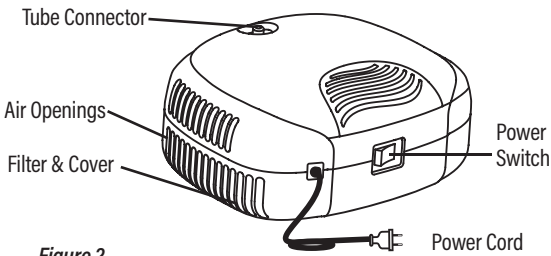

Figure 2
**Components** The Standard Nebulizer components are diagrammed below in *Figures 2*.